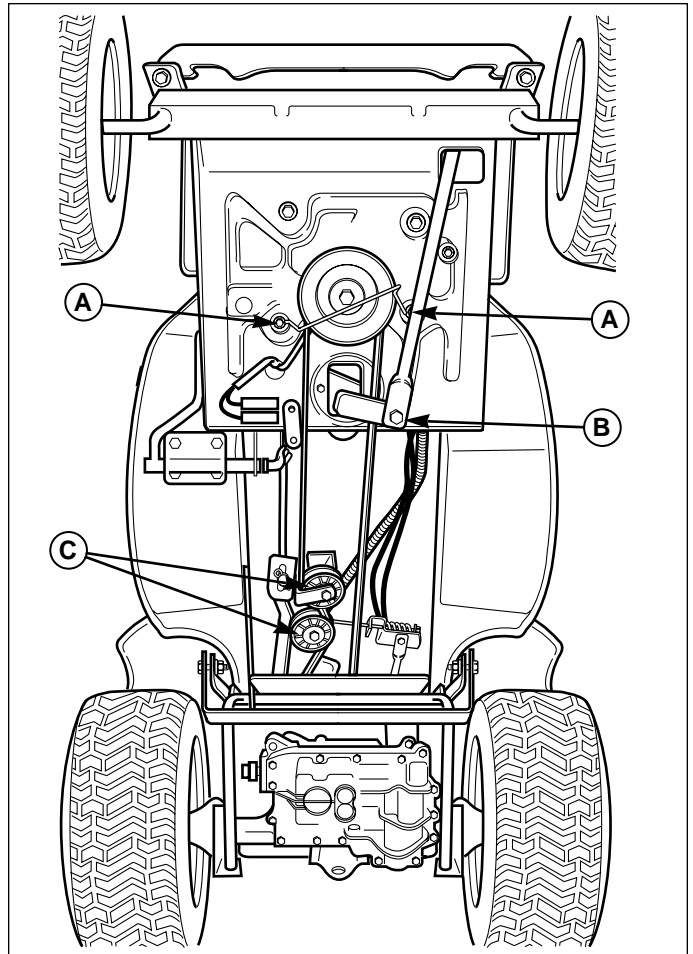

Figure 40. Drive Belt Replacement
3. Loosen the bolts securing the engine pulley belt guide (A, Figure 40).
4. Remove the rear drag link hardware (B, Figure 40). When reassembling, apply thread locking compound to nut before tightening.
6. Note the position of the idler pulley belt guide. Loosen hardware securing the idler pulleys (C, Figure 40).
7. Carefully slide belt over transmission pulley and remove from the idler pulleys (C, Figure 40).